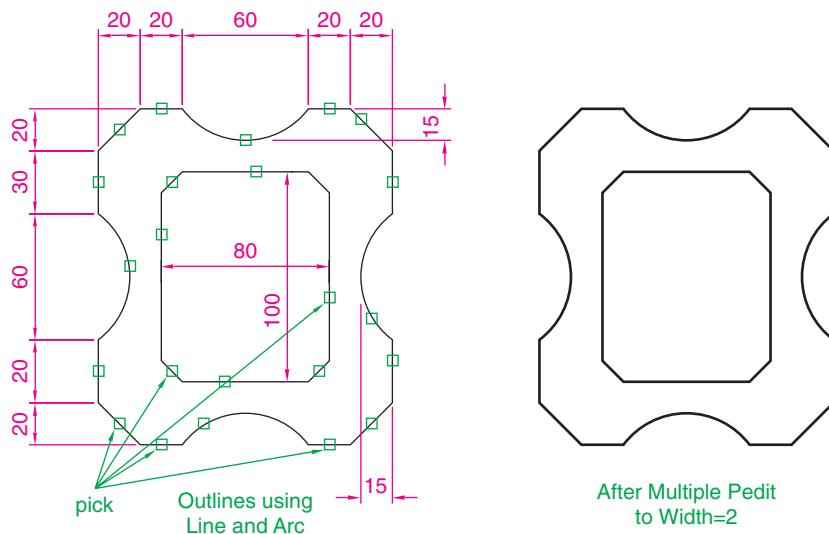

Fig. 3.44 Example – Multiple Polyline Edit
Example – Multiple Polyline Edit (Fig. 3.44)
1. With the **Polyline** tool construct the left-hand outlines of **Fig. 3.44**.
Continue selecting lines and arcs as shown by the pick boxes of the left-hand drawing of Fig. 3.44 until the command line shows:
The result is shown in the right-hand drawing of Fig. 3.44.